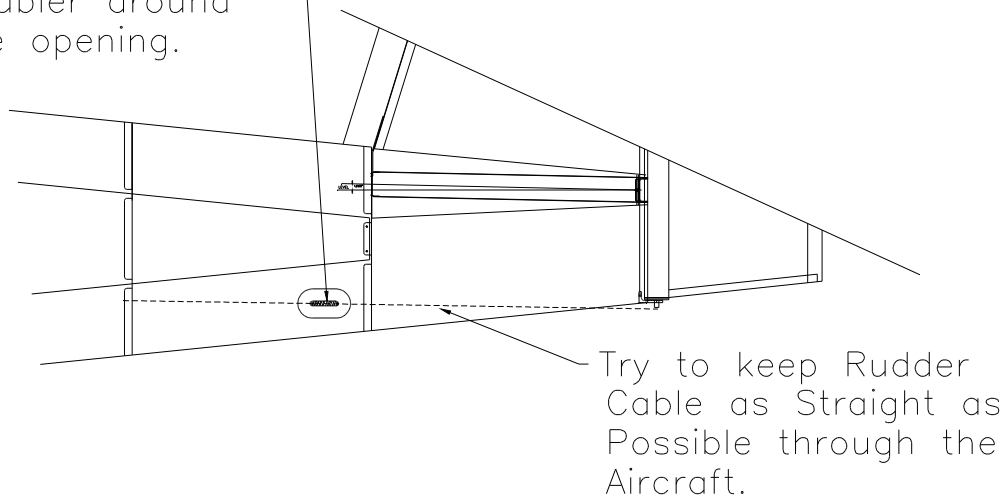

Figure 20.11.4
- 8) Locate the approximate location of the exit point for the cable. Drill two holes and cut out between as in Figure 20.11.4.